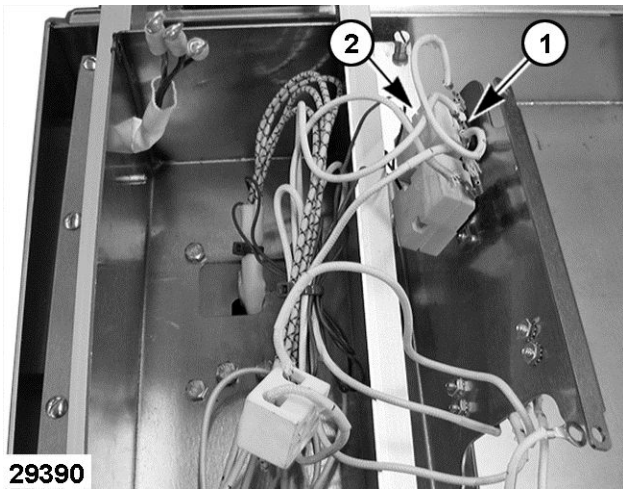

Fig. 38
3. Note wire locations (1, Fig. 38) and disconnect from control thermostat (2, Fig. 38).